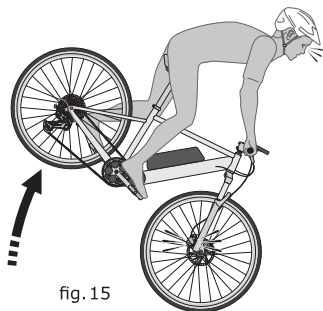

fig. 15
**2. Applying brakes too hard or too suddenly can lock up a wheel, which could cause you to lose control and fall [see fig. 15]. Sudden or excessive application of the front brake may pitch the rider over the handlebars, which may result in serious injury or death.**